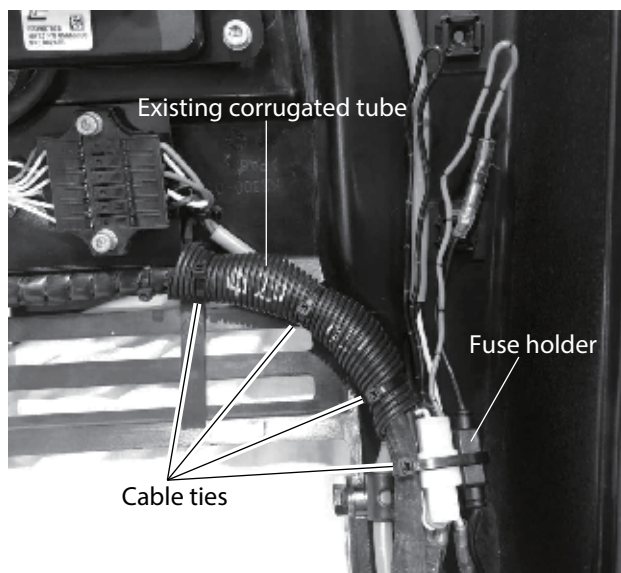

Figure 24. Secure Fuse Holder
13. Secure the fuse folder (P/N 467352850) to the existing wire harness with cable ties (P/N 506010070). See Figure 24.
14. Secure the existing corrugated tube with cable ties (P/N 506010070). See Figure 24.